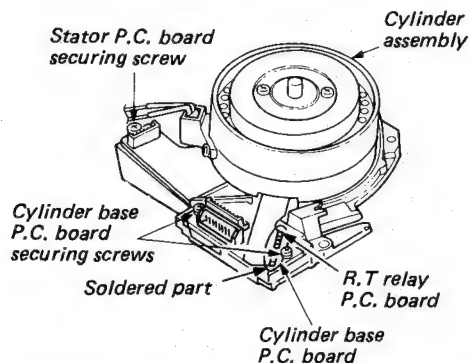

Fig. 1-3-16 Relay P.C. board and cylinder base P.C. board
2. Remove two cylinder base P.C. board securing screws and stator P.C. board securing screw (Fig. 1-3-16).